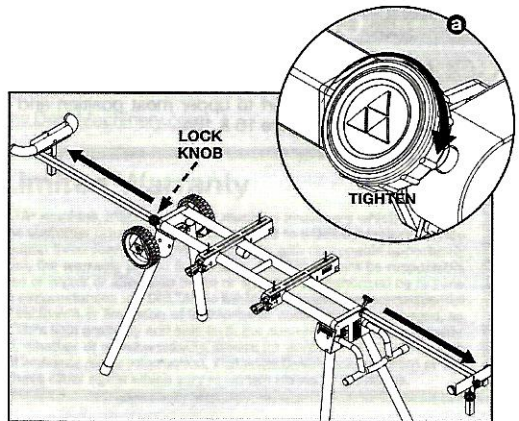

FIGURE 13
3. Adjust support rods as needed and lock knobs as shown in Figure 13 & 13a.